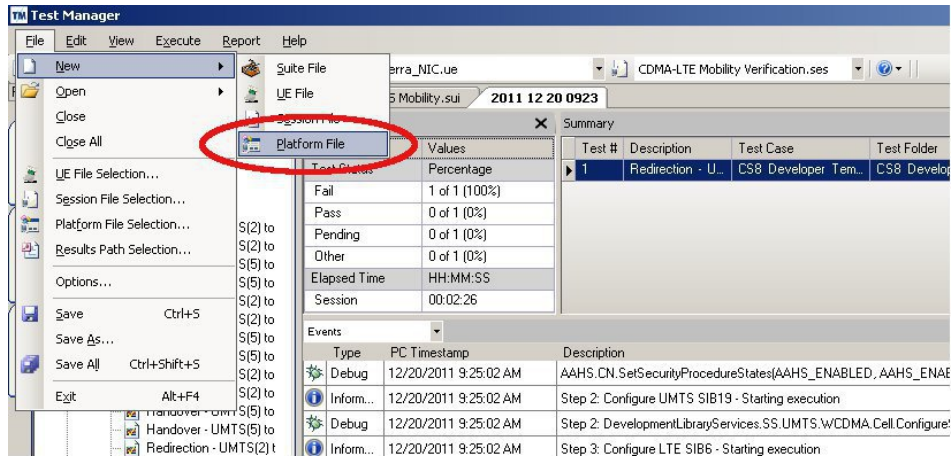

Figure 3-7: Platform File Menu Item
1. In Test Manager, select **File>New>Platform File** as shown in Figure 3-7. The B-Series Platform file opens.